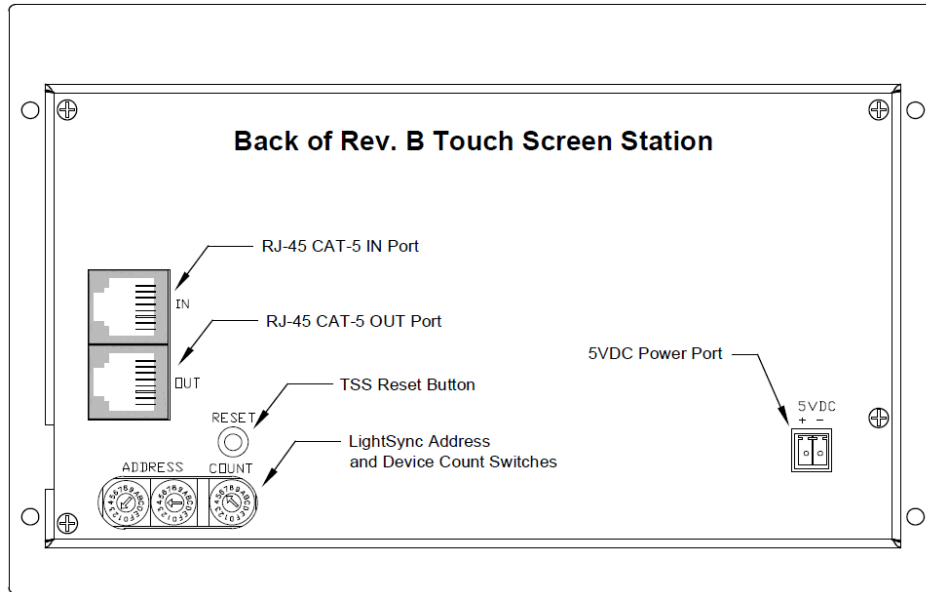

Figure 14 Back of Rev. B Touch Screen Showing Address and Device Count Switches
1. Set the “Base” address with the 2 rotary switches on the back of the LightSync Touch Screen. See figure 14 and 18. Note: This will be the same as programmed in the “Device Options” for “LightSync Node: 24”.
3. Set the LightSync Node Range, adjust the rotary count switch to the number of devices required. Note: Each switch number equals to 4 devices starting at 0. Refer to Table 1 and figure 14.